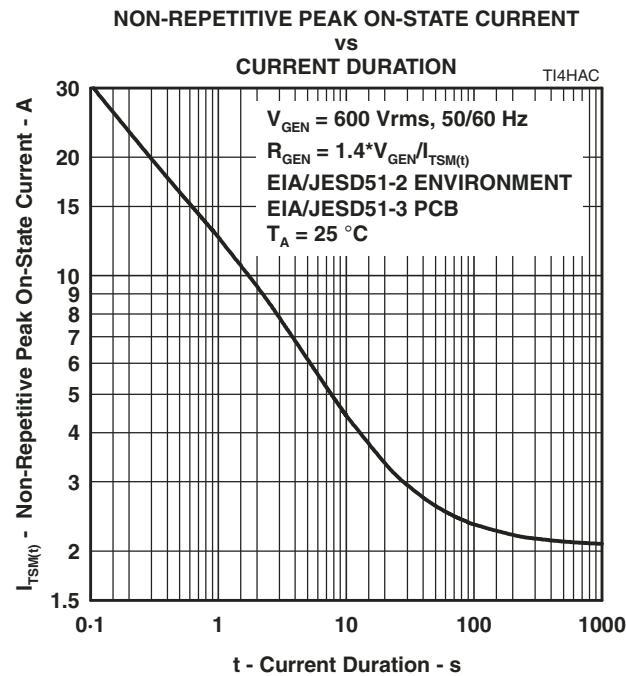

Figure 8.
5. EIA/JESD51-2 environment and EIA/JESD51-3 PCB with standard footprint dimensions connected with 5 A rated printed wiring track widths. See Figure 8 for the current ratings at other durations. Derate current values at $-0.61\%/\text{ }^\circ\text{C}$ for ambient temperatures above 25°C .
The protector can withstand currents applied for times not exceeding those shown in Figure 8. Currents that exceed these times must be terminated or reduced to avoid protector failure. Fuses, PTC (Positive Temperature Coefficient) resistors and fusible resistors are overcurrent protection devices which can be used to reduce the current flow. Protective fuses may range from a few hundred milliamperes to one ampere. In some cases, it may be necessary to add some extra series resistance to prevent the fuse opening during impulse testing. The current versus time characteristic of the overcurrent protector must be below the line shown in Figure 8. In some cases, there may be a further time limit imposed by the test standard (e.g. UL 1459 wiring simulator failure).